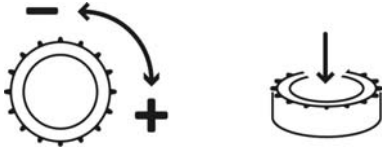

Fig. 11: Operation of the operating knob
**$n=f(AI)$  (manual control mode – see Fig. 11)**
- The **LCD** shows the operating statuses of the pumps, the controller and the frequency converter. The menu selection and parameter input are performed using the operating knob. Turn the knob to change values or to scroll through a menu level; press it in order to select and confirm (Fig. 11).